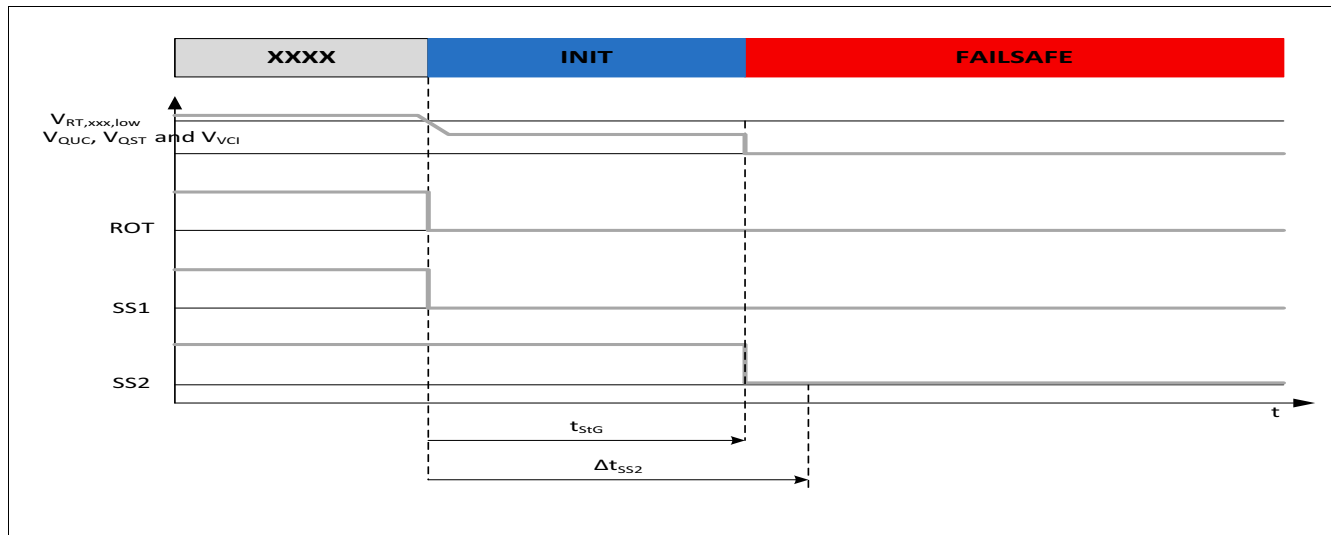

Figure 51 Transition from XXXX to INIT to FAILSAFE state after detection of short to ground
- The detection of a short to ground of the μC related voltages V_{QUC} , V_{QST} or V_{VCI} as shown in the Figure 51 will first be detected as an under voltage event and move the device from NORMAL state to INIT state. After the short to ground detection time t_{SIG} the device will then move from INIT state to FAILSAFE state (please refer to transition from INIT state to FAILSAFE state).
- The detection of a short to ground of the μC related voltages V_{QUC} , V_{QST} or V_{VCI} as shown in the Figure 51 will first be detected as an under voltage event and move the device from STANDBY state to INIT state. After the short to ground detection time t_{SIG} the device will then move from INIT state to FAILSAFE state (please refer to transition from INIT state to FAILSAFE state).
- The detection of a short to ground of the μC related voltages V_{QUC} , V_{QST} or V_{VCI} as shown in the Figure 51 will first be detected as an under voltage event and move the device from SLEEP state to INIT state. After the short to ground detection time t_{SIG} the device will then move from INIT state to FAILSAFE state (please refer to transition from INIT state to FAILSAFE state).
- The detection of a short to ground of the μC related voltages V_{QUC} , V_{QST} or V_{VCI} as shown in the Figure 51 will first be detected as an under voltage event and move the device from WAKE state to INIT state. After the short to ground detection time t_{SG} the device will then move from INIT state to FAILSAFE state (please refer to transition from INIT state to FAILSAFE state).